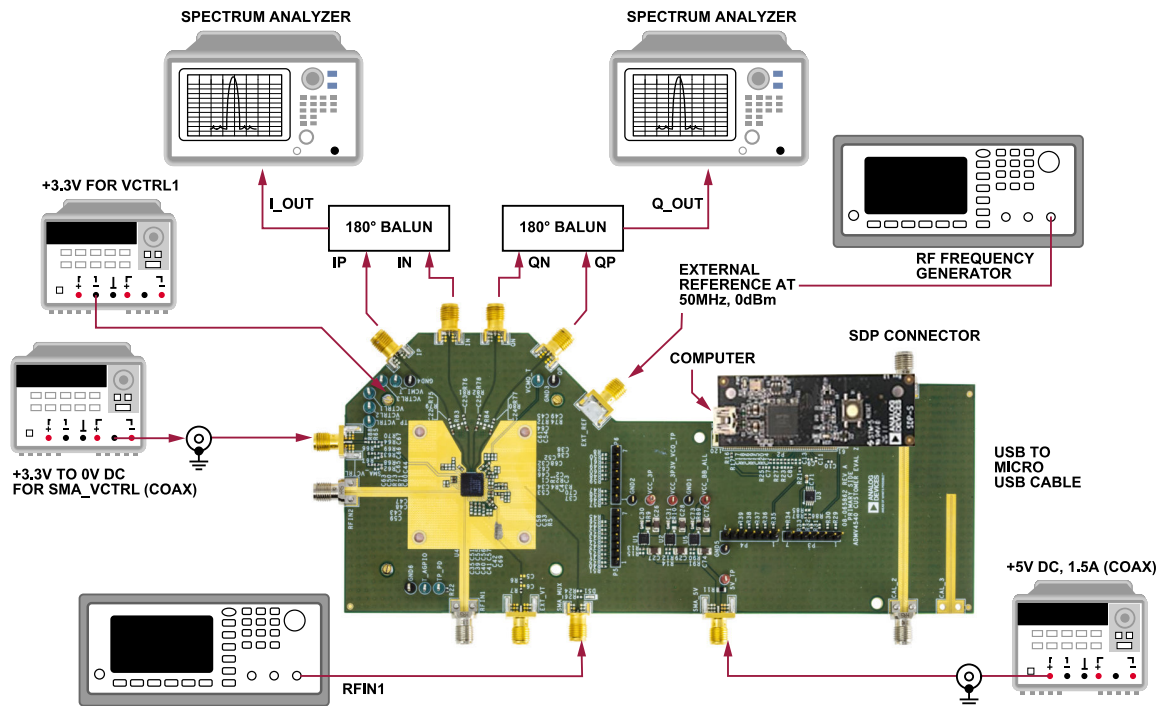
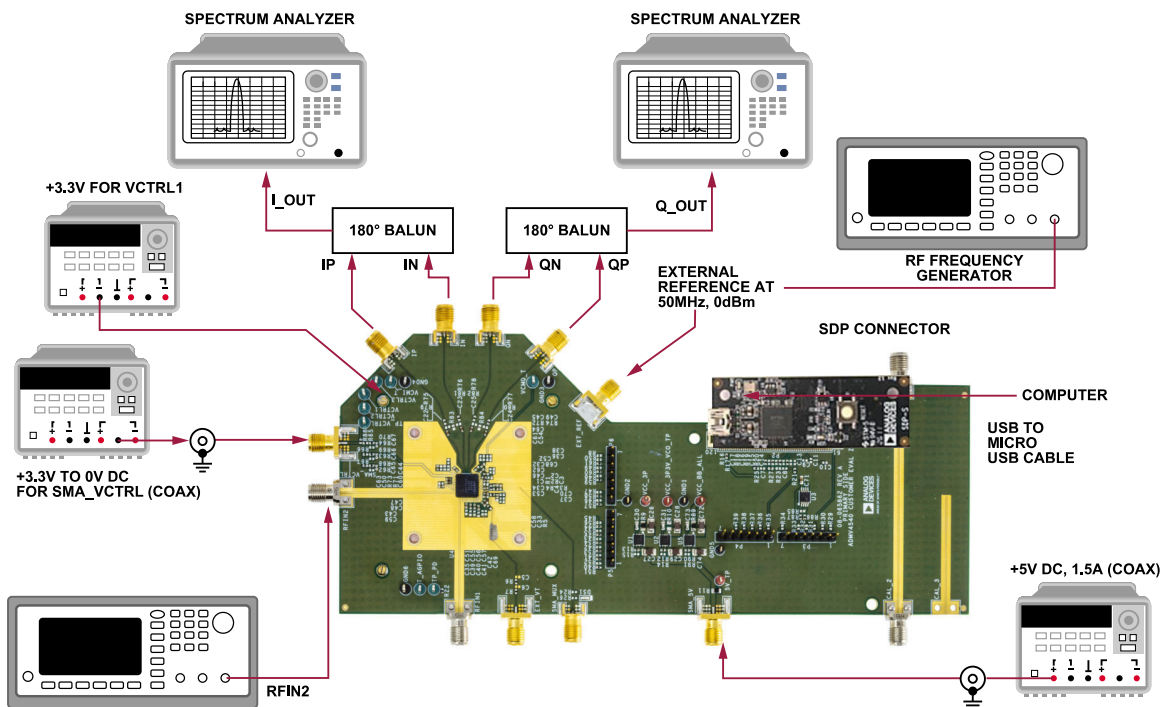

Figure 3. ADMV4540 Lab Bench Setup for the RFIN1 Input
Figure 4. ADMV4540 Lab Bench Setup for the RFIN2 Input
Figure 3 and Figure 4 show the lab bench setups for the ADMV4540-EVALZ RFINx inputs. Note that I_OUT is the combination of IP and IN, and Q_OUT is the combination of QP and QN in Figure 3 and Figure 4.
5. Connect the IP, IN, QN, and QP cables as shown in Figure 3 and Figure 4.